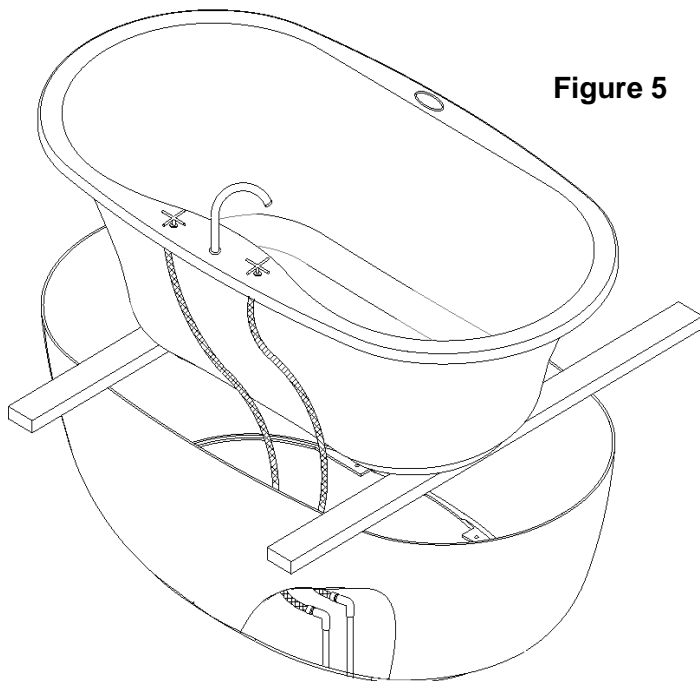

Figure 5
17. **Drill the four (4) pilot holes for securing the skirt to the floor.**
21. Place two 2” x 4” boards approximately four (4) feet in length across the top of the skirt.
22. Set the bath on top of the 2” x 4” boards. Secure stainless steel flex plumbing to the deck-mounted faucet (if applicable) **See Figure 5.**